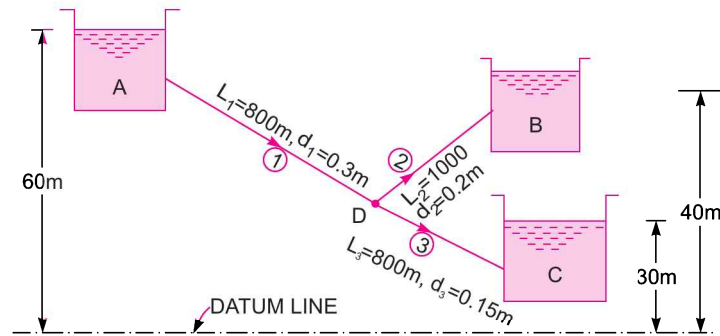

Fig. 11.28
**Problem 11.43** Three reservoirs,  $A$ ,  $B$  and  $C$  are connected by a pipe system shown in Fig. 11.28. The lengths and diameters of pipes 1, 2 and 3 are 800 m, 1000 m, and 300 mm, 200 mm and 150 mm respectively. Determine the piezometric head at junction  $D$ . Take  $f = .005$ .
The direction of flow in pipes are shown (given) in Fig. 11.28. Applying Bernoulli's equation to points  $A$  and  $D$